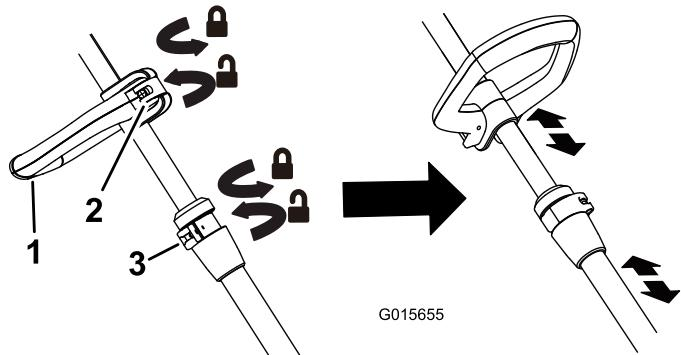

Figure 5
- To adjust the trimmer height, open the height adjustment latch, then slide the shaft up or down to desired height, securing it in place with the latch (Figure 5).
- To adjust handle height, flip the auxiliary handle latch, slide it up or down to the desired height, then secure it in place by closing the latch (Figure 5).